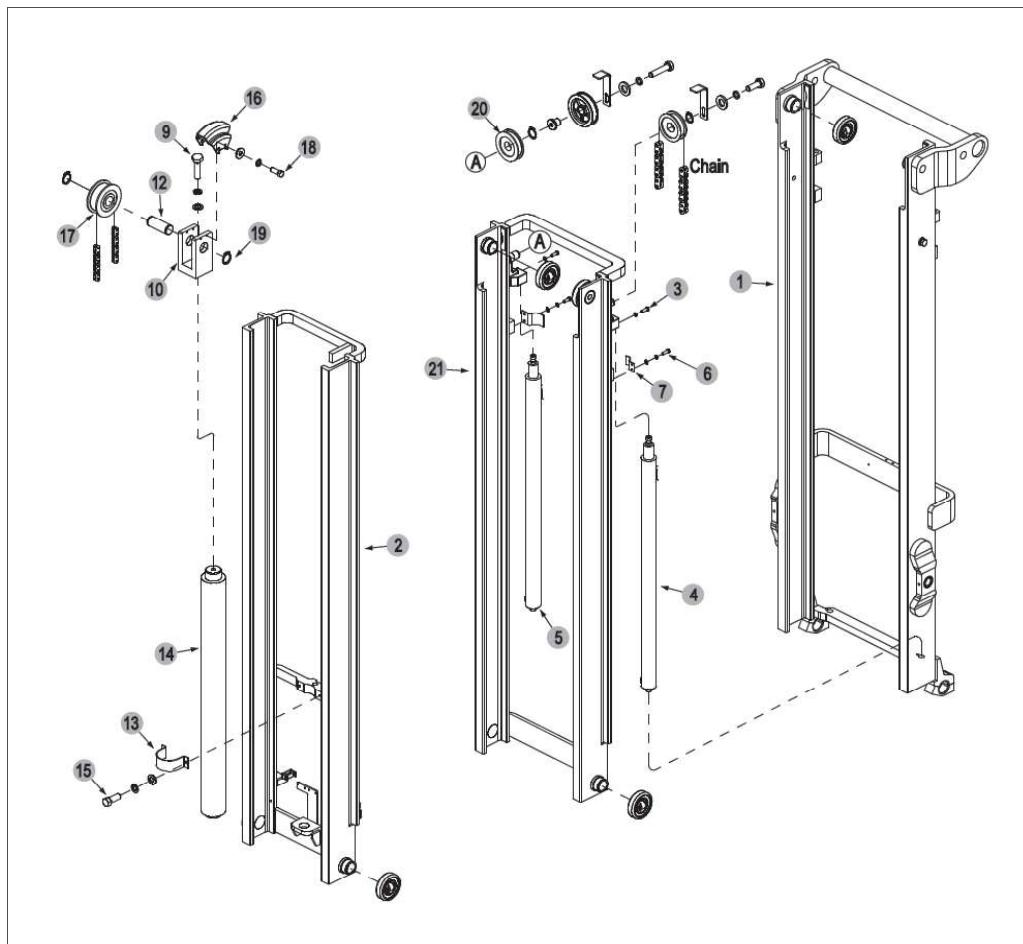

Figure 9-9 Mast System
6. Remove the hoses (1).
8. Remove bolt (18, Figure 9-9) and remove the free lift cylinder chain pulley guard (16).
9. Remove the snap ring (19) and remove the shaft (12).
10. Remove the chain pulley (17).
11. Remove the bolt (9) and then remove the chain pulley bracket (10) from the free lift cylinder (14).
12. Remove the bolt (15) and remove the clamp (13).
13. Separate the free lift cylinder (14) from the inner mast (2).
14. Raise the free lift cylinder (14) up and out of truck.
5. Remove the bolt (6, Figure 9-9) and remove the cylinder clamp (7).
6. Remove bolt (3, Figure 9-9), lock washer and flat washer from the top of the cylinder being removed.